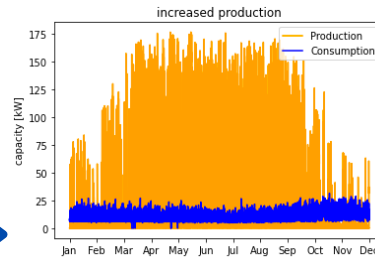

Fig. 2 Scaled yearly Production and original consumption
- For the models the production was scaled to meet the demand as in figure 2.